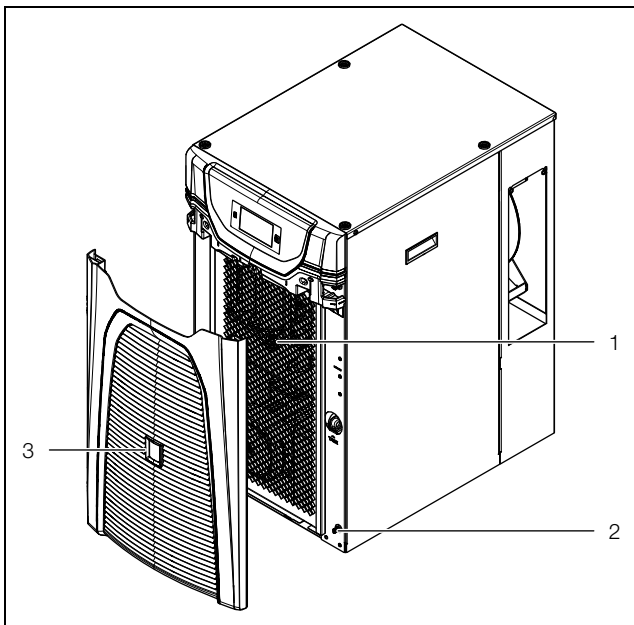

Fig. 14: Pull off the louvred grille 3320200 and 3334300
- At the front of the chiller, pull the louvred grille (fig. 14, item 3) away from the mounting clips (fig. 14, item 2), and place or lay it down somewhere safe.